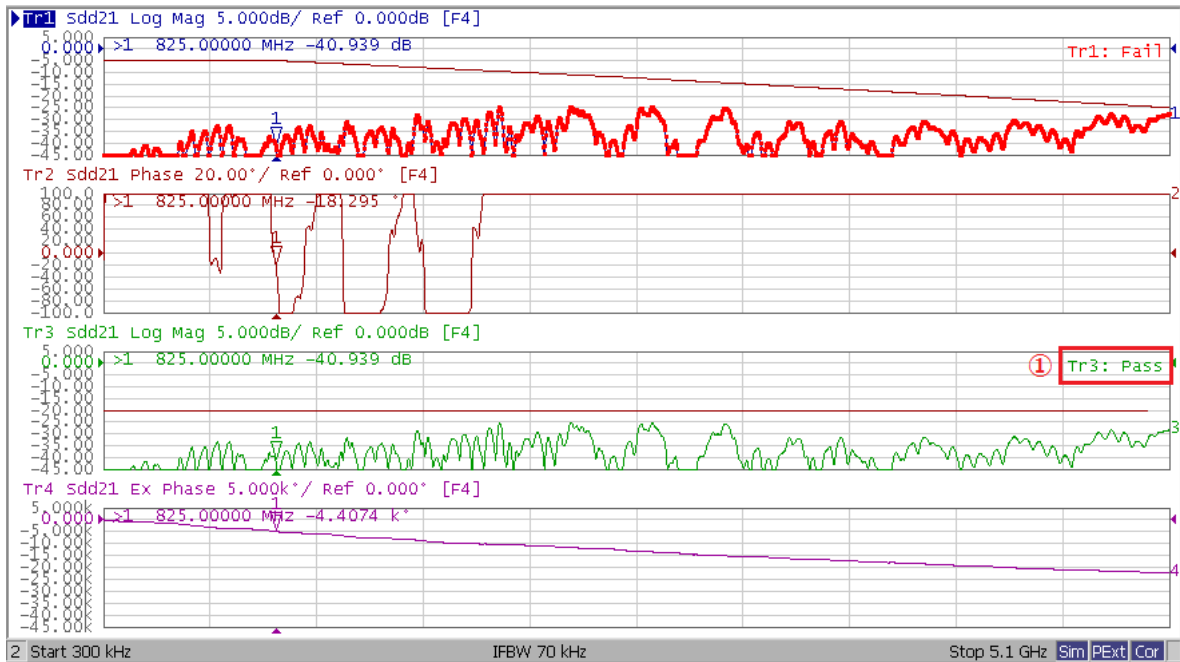

Figure 5-8 Far End Crosstalk Measurement Example
Read the pass/fail sign on Trace3 (item1 in Figure 5-8).